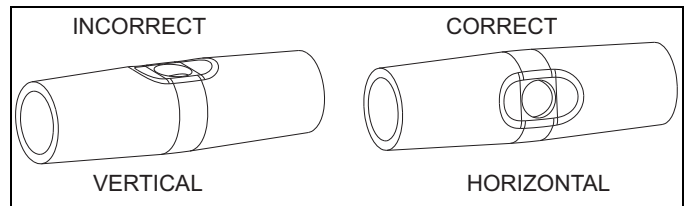

FIGURE 1: Tapped Gas Pipe Nipple
The barbed connector on the gas valve labeled "VENT" (see Figure 1) should be used only with furnace models having a closed burner box. For furnaces without a closed burner box, the barbed connector must be left open.
Follow the appropriate section in the instructions below. Refer to Figure 1 for a drawing of the locations of the pressure ports on the gas valve.
- Refer to Figure 1 for location of pressure regulator adjustment cap and adjustment screws on main gas valve.